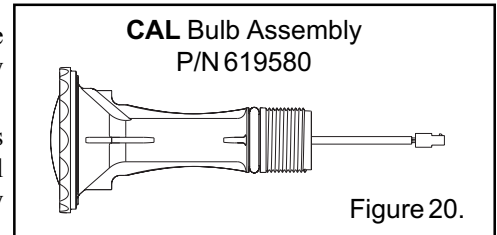

Figure 20.
18. Connect the wire connectors from the bulb assembly to the wire connectors attached to the snap-on cord cap. Make sure to use the correct bulb assembly unit for a CAL light, see Figure 20. *The wrong bulb assembly will permanently damage light.*
1. When replacing the bulb assembly, make sure to use the correct bulb assembly unit for CAL light, see Figure 20.